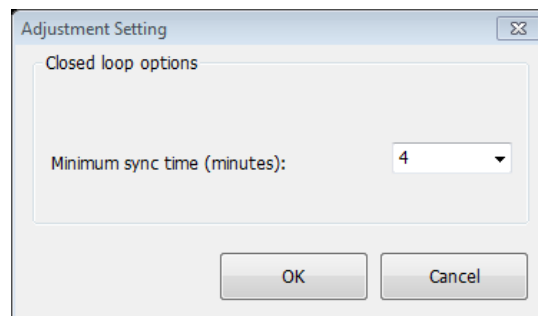

Figure 3-12
- 1) Adjustment Setting (show in Figure 3-12)